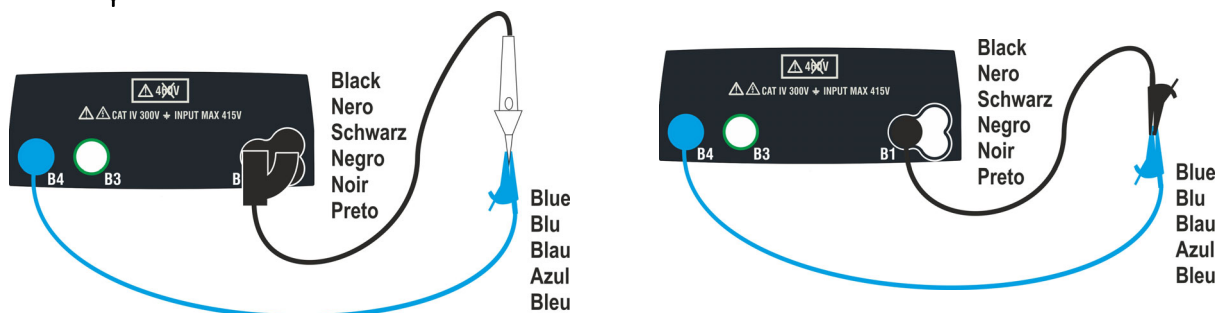

Fig. 10: Compensation of single cables and remote switch probe resistance
- Connect the alligator clips and/or test leads and/or remote switch probe to the conductor to be tested as indicated in Fig. 10.